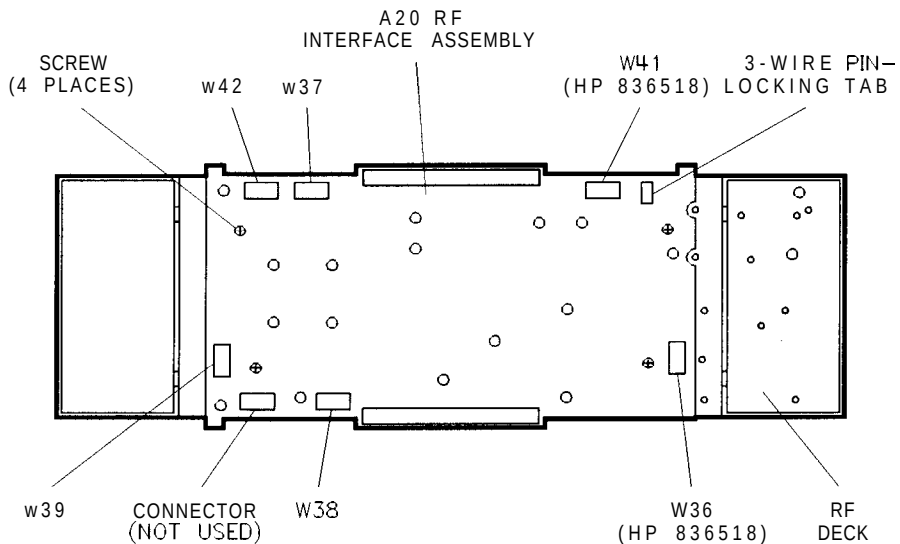

Figure 7-25. A20 RF Interface Removal
1. Disconnect ribbon cables W36, W37, W38, W39, W41, and W42. (You may need to loosen the two hex screws attaching the deck to the synthesizer frame in order to disconnect W38.) Refer to Figure 7-25.